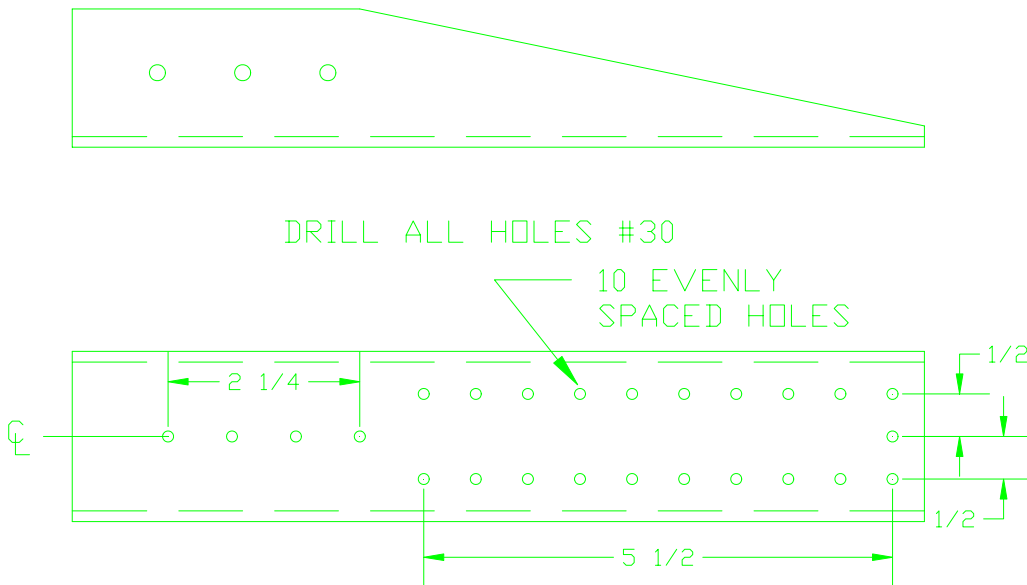

FIGURE 23
38) In each of the two remaining FUS-340 engine mount brackets drill a #30 hole pattern as in Figure 23.